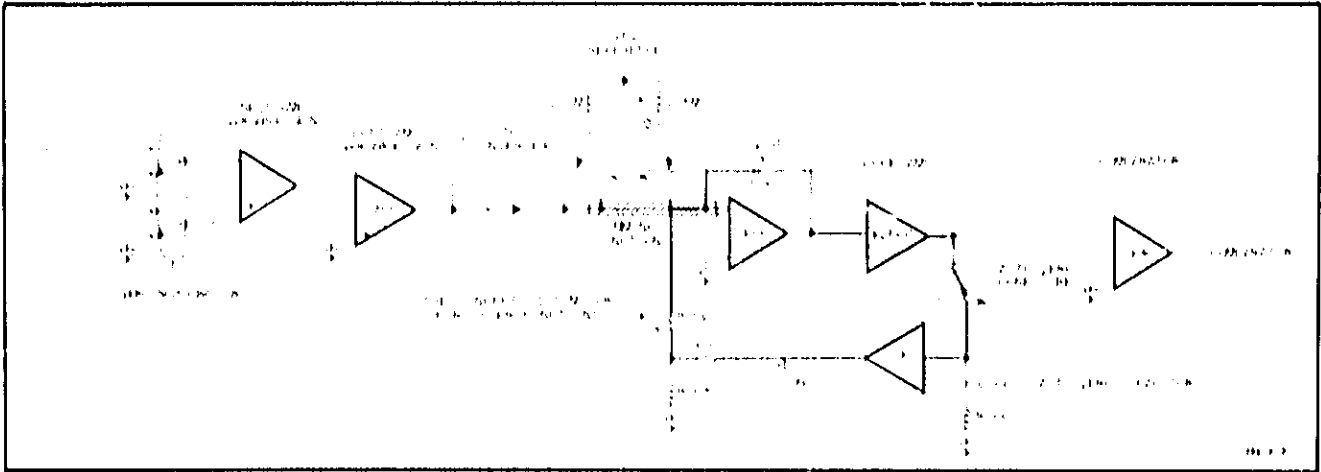

Figure 4-7. Auto-Zero Loop For ==V Function.
**4-31.** Refer to Figure 4-7. The reference current  $I_R$  is switched to the summing junction of the Integrator and a voltage-to-current feedback path is switched to the summing junction from the Slope Amp output. The Auto-Zero Capacitor (A9C700) stores the feedback current as a charge which is the controlling input voltage to JFET A9Q700A, a voltage controlled current source. The resulting feedback current  $I_{AZ}$  serves to adjust the balancing current  $I_R$  such that the Integrator summing junction is current-nulled, which means no current flows through the Integrator Capacitor. The concept, which is illustrated for the DCV function is similar in other functions, the only differences being in the definition of "a zero input condition". For the voltage functions (DCV & ACV) this is a 0 V input to the Input